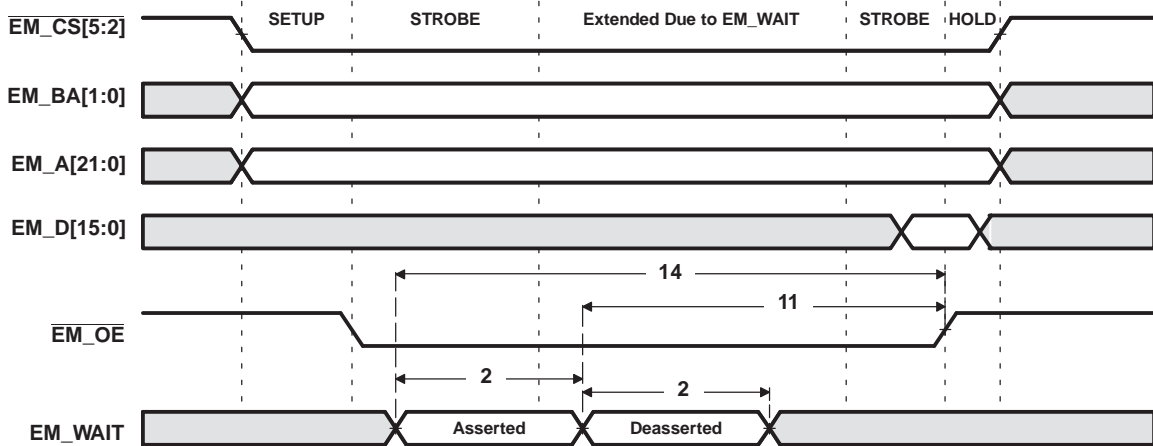
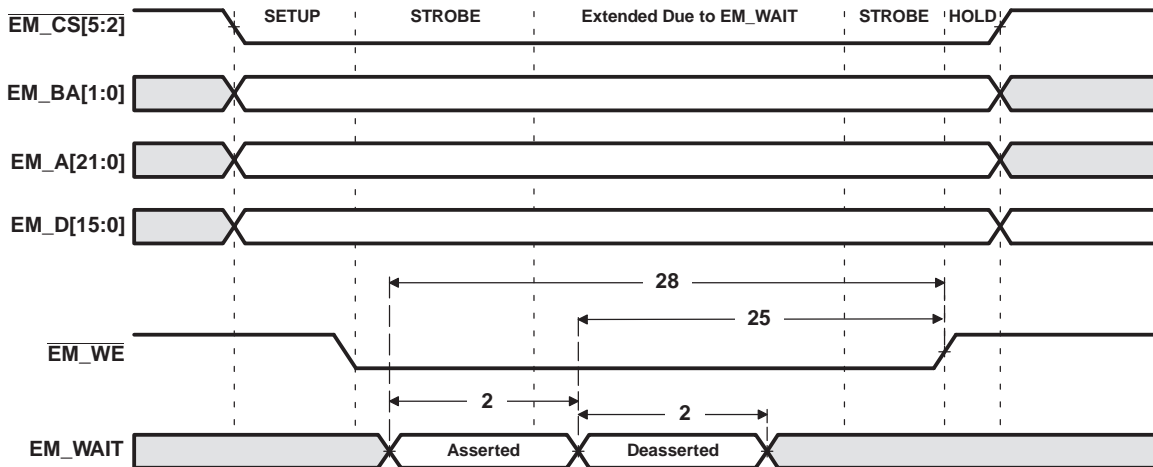

Figure 6-23. $\overline{EM_WAIT}$ Read Timing Requirements
Figure 6-24. EM_WAIT Write Timing Requirements
- (1) E = SYSCLK5 period in ns for EMIFA. For example, when running the DSP CPU at 594 MHz, use E = 10.1 ns.
- (2) Setup before end of STROBE phase (if no extended wait states are inserted) by which EM_WAIT must be asserted to add extended wait states. Figure 6-23 and Figure 6-24 describe EMIF transactions that include extended wait states inserted during the STROBE phase. However, cycles inserted as part of this extended wait period should not be counted; the 4E requirement is to the start of where the HOLD phase would begin if there were no extended wait cycles.